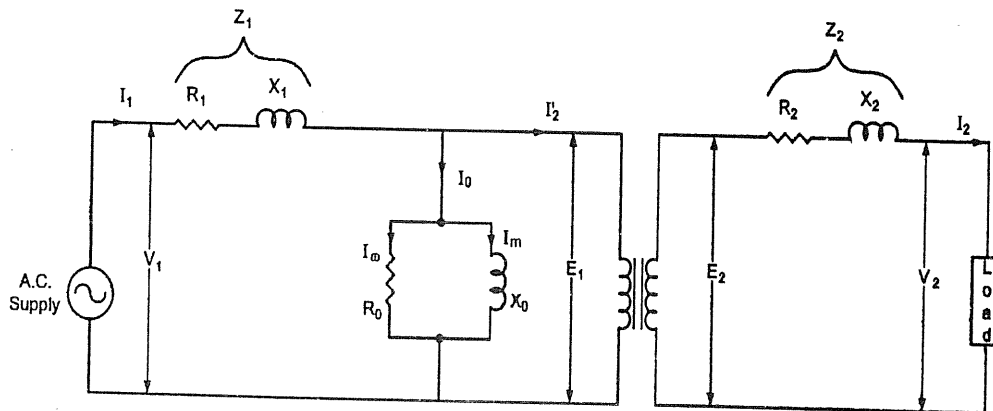

FIG. 3.28 : COMPLETE EQUIVALENT CIRCUIT OF A TRANSFORMER
- Fig. 3.28 shows the complete equivalent circuit of a transformer.